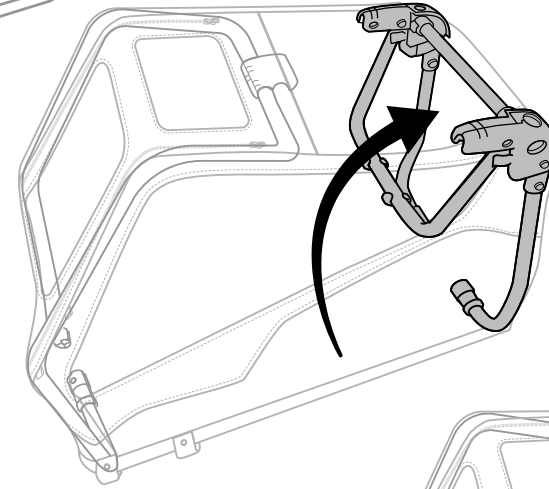

Figure 2
2. Rotate rear frame tube towards the rear of the trailer (Figure 2).